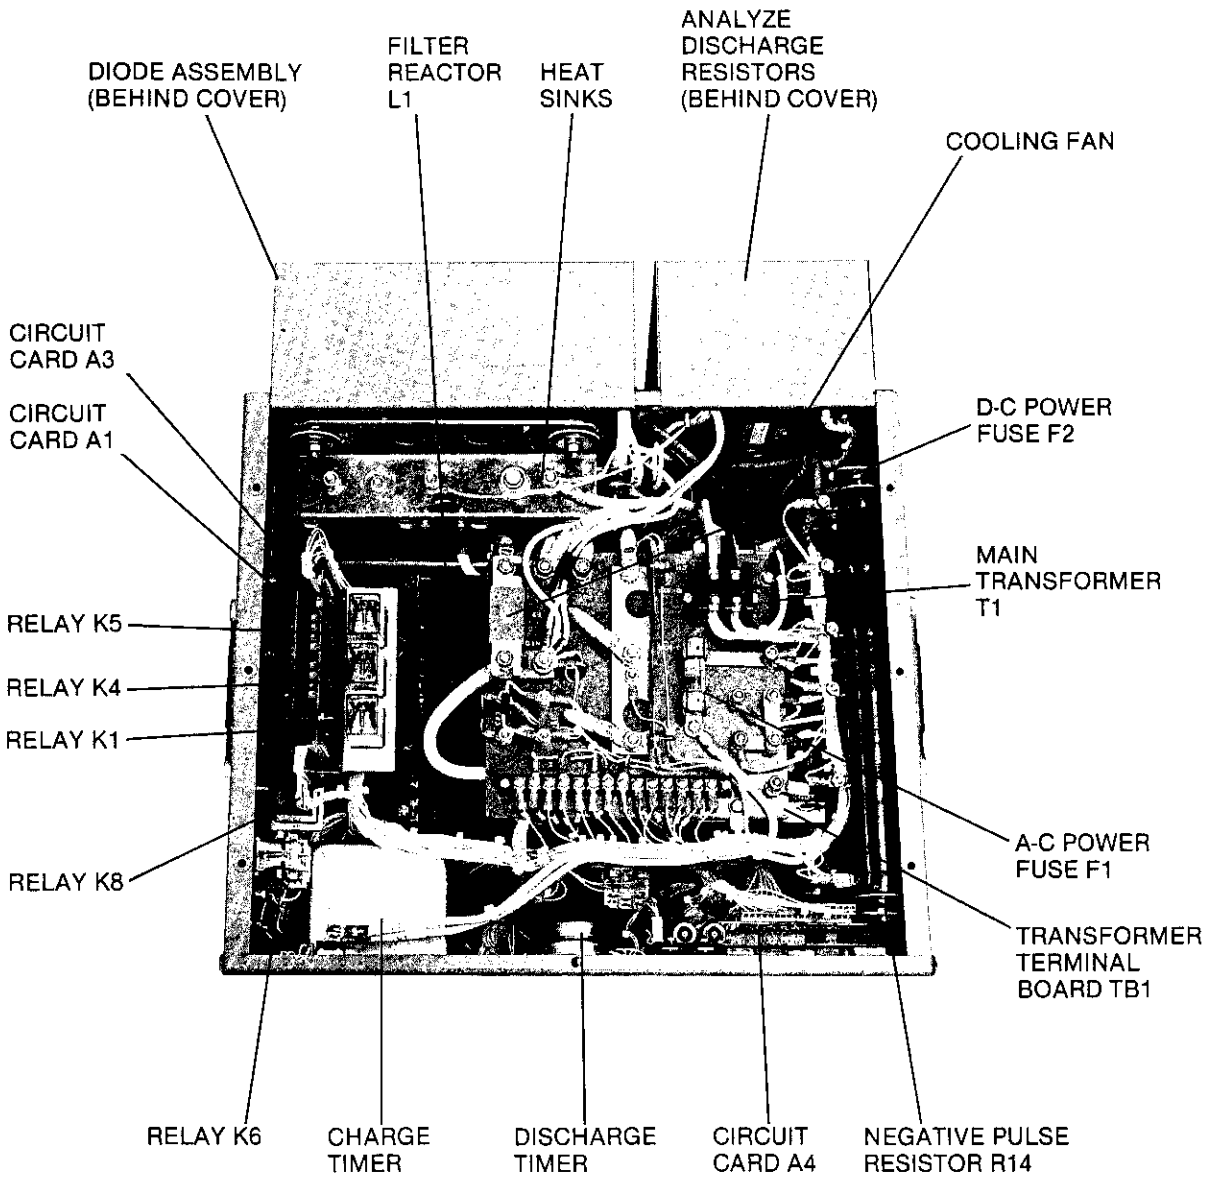

Figure 1-3. Location of Major Internal Components
- 1-17. INTERIOR COMPONENTS. As may be seen in the interior view of Figure 1-3, the major components of the unit consist of the primary power transformer T1, the filter reactor L1, the terminal board TBI which mounts the high current a-c and d-c fuses F1 & F2, three control circuit cards A1, A3, and A4, and various control relays. The high current rectifying diodes are heatsink-mounted at the rear of the unit and the discharge resistors, diode assemblies, and filter capacitor are mounted inside protective covers on the outside rear of the cabinet. The input power cable is provided at the rear of the unit.